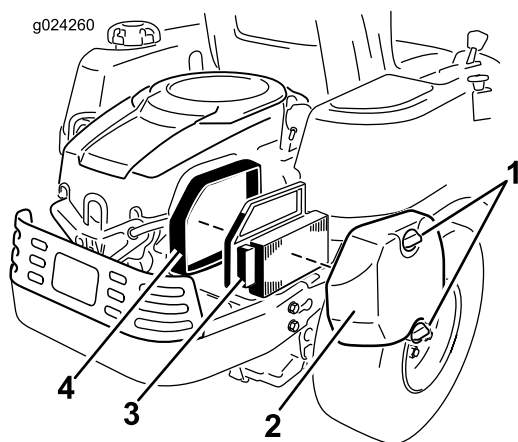

Figure 30
1. Remove the air-cleaner cover (Figure 30).
2. Remove the air-cleaner element with the integral rubber seal (Figure 30).
5. Install the air-cleaner element with the pleated side out and seat the rubber seal onto the edges of the air-cleaner base (Figure 30).
6. Install the air-cleaner cover and secure with the 2 knobs (Figure 30).